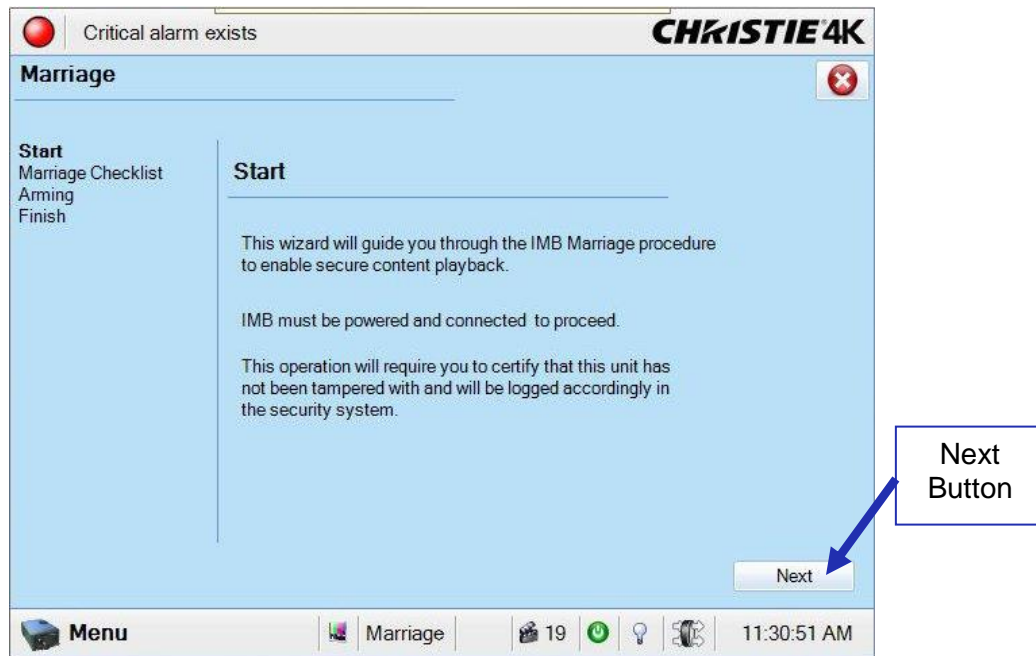

Figure 88: Marriage Wizard
- The marriage wizard, on the touch panel controller, will then guide you through the steps necessary to complete the marriage. Click the Next button to begin (Figure 88).